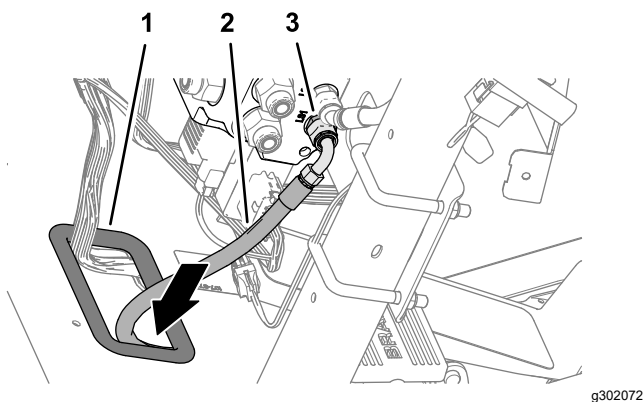

Figure 68
3. Route the end of the hydraulic pump hose 6 x 2819 mm (1/4 x 111 inches) with the -4, 90° fitting through the grommet in the floor plate (Figure 68).
4. Assemble the -6, 90° fitting of the hose 6 x 2819 mm (1/4 x 111 inches) onto the port the LS1 fitting of the EHI steering valve, and tighten the hose fitting (Figure 68).